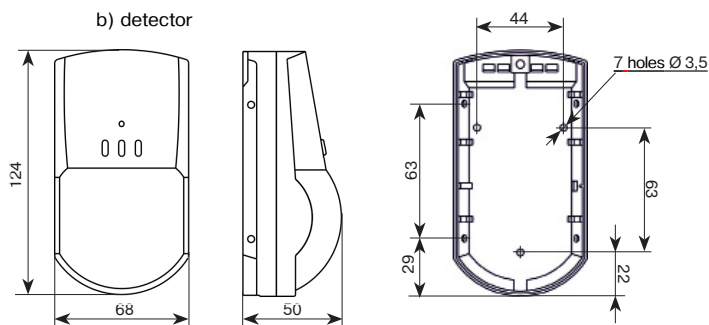

Figure 4 – Overall dimensions
- Remove the detector cover (6) from the base (1) by pressing the cover lock (8) with a screwdriver through the hole located in the lower part of the detector base.
- When installing the detector without a bracket, it is necessary to remove the printed circuit board (5) by pressing the board fastener (7).
- Drill holes (2) in the base of the detector, which will be used for laying wires and fixing the detector.
- Having chosen the installation location, mark the holes for mounting the detector, taking into account the position of the holes in the detector base (bracket), drill holes in the wall (Figure 4).